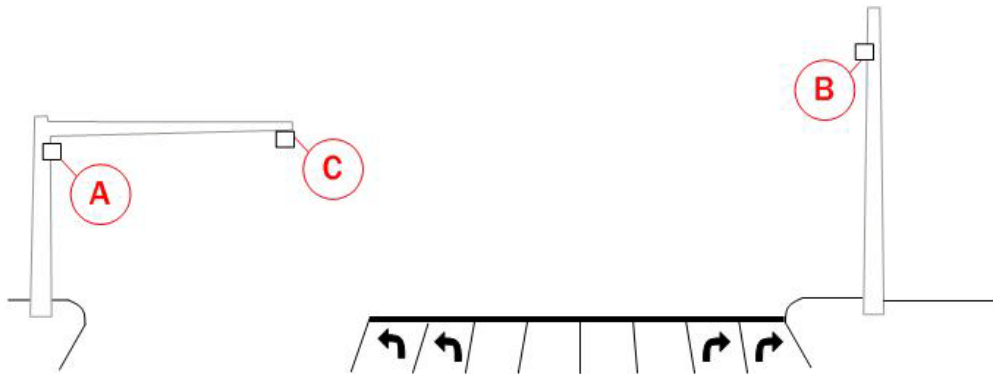

Figure I-5: Mounting locations
- Mounting pole** – The sensor is usually mounted on a corner vertical mast pole or strain pole. On wide approaches the sensor can also be mounted on the back side of a mast arm using an appropriate sensor mount. In either case, the sensor should be mounted with at least a six-foot offset from the first detected lane. Figure I.5 illustrates common mounting locations: A – far side of approach, B- near side of approach, C – back side of mast arm. Other mounting locations may be possible if these are not available at your intersection. Contact Wavetronix Technical Services for assistance if you would like to test an alternative mounting location.